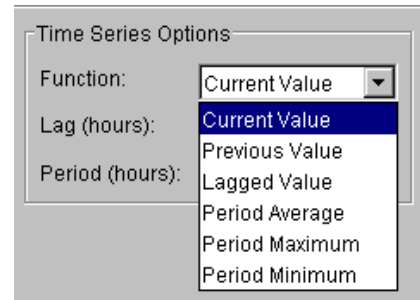

Figure 11.15 Time Series Options for Model and External Variables
- If desired, for either the Model or External variables, select the **Time Series Options** for the independent variable. From the **Function** list (Figure 11.15), you can select **Current Value**, **Previous Value**, **Lagged Value**, **Period Average**, **Period Maximum**, and **Period Minimum**. The **Lag** (in hours) can be specified (for all but Current and Previous value) along with the appropriate **Period** (in hours).